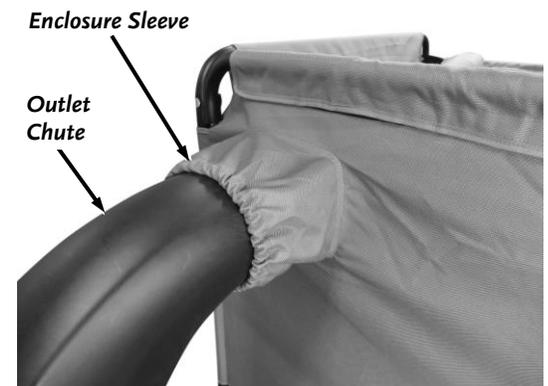

Figure 77
5. Pull the Enclosure Sleeve from the Outlet Chute (**Figure 77**).